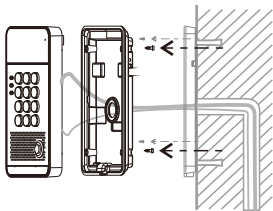

Figure 9
- A. Use the 4 screws to tighten the main part of intercom on the back panel as shown in Figure 9.